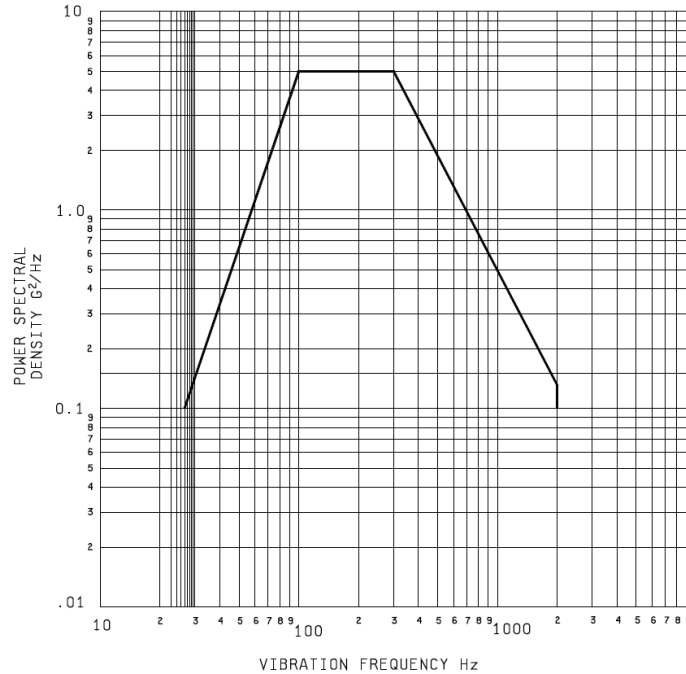

Figure 1 - Random vibration envelope
- Test condition V – Using the vibration envelope shown in figure 1